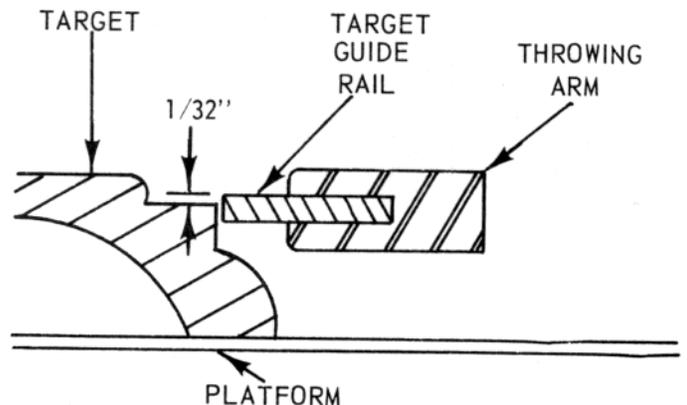

Figure 16 – Correct Guide Rail Height
- 2.2 Correct attitude is obtained by shimming between the throwing arm carrier and the top of the mainshaft assembly. The distance between the upper edge of the guide rail and the target shoulder should be approximately 1/32" (see Figure 16).